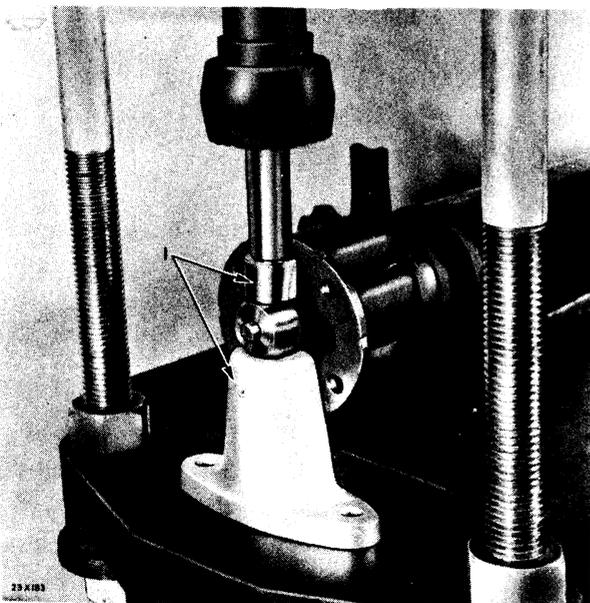

Fig. 3—Installing Universal Joint Pin
*When installing trunnion pin in propeller shaft care should be taken to see that the trunnion pin is centered in the shaft. Each end of pin should protrude the same distance, with a variation of no more than .003 inch. If one side of the pin extends more than .003 inch farther than the other, the propeller shaft will be out of balance. Tool C-552, as shown in Figure 3, will facilitate the removal, installation, and centering of the trunnion pin.*
- (3) Failure to observe these recommendations may result in an out-of-balance condition causing vibration.